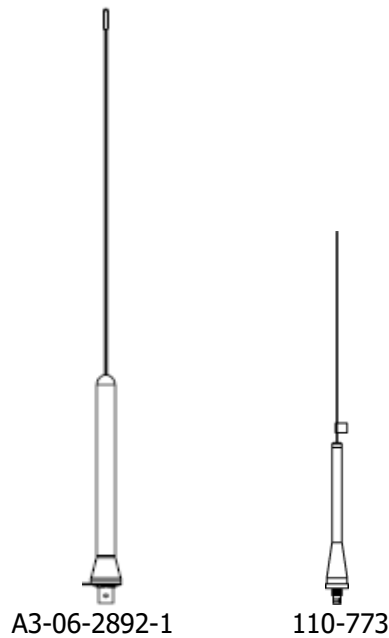

Figure 5 Antennas
- 5) There are only two types of antennas that are approved for use with the ARTEX ELT 345 (see Figure 5). These antennas are ARTEX part numbers A3-06-2892-1 and 110-773.